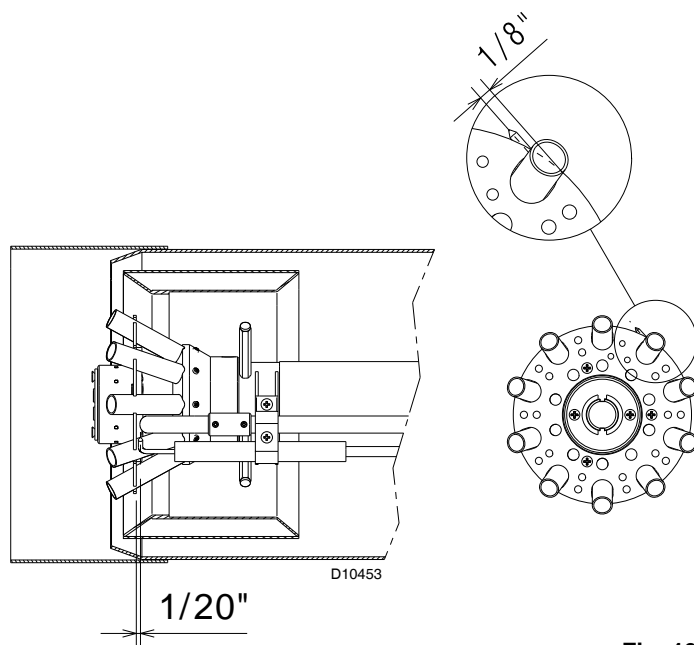

Fig. 13
To verify the correct position of the ignition electrode (Fig. 13), you need to separate the combustion head from the rest of the burner.
- check the correct position of ignition electrode, as shown in Fig. 13.